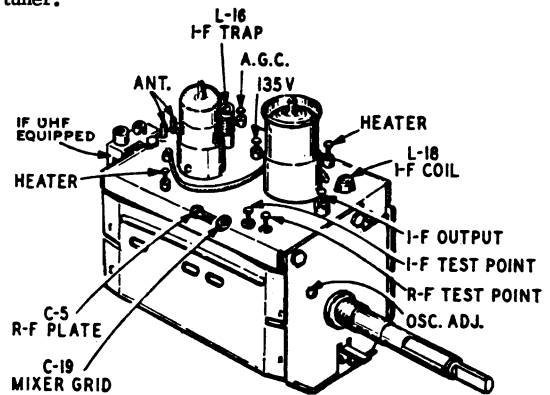

Fig. 7 - Turner Adjustments
3. Set channel selector to Channel 13. Connect sweeper with very short leads through a 10 Kmmf disc ceramic capacitor to mixer grid (I-F test point, see figure 7). Readjust sweep output for 4.0V P-P, adjust 41.25 mc trap (bottom of L-200) so that notch is at marker, adjust mixer plate coil (L-18 primary) and input grid coil (top of L-200) for maximum gain and symmetry with 45.75 mc marker at 50%. (Figure 6.)